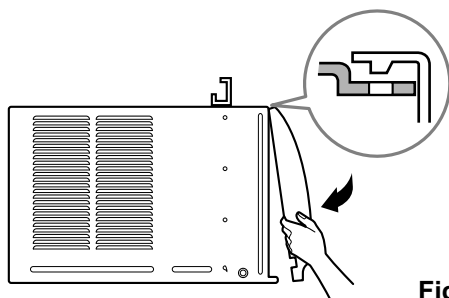

Fig. 10
13. Attach the front grille to the cabinet by inserting the tabs on the grille into the tabs on the front of the cabinet. Push the grille in until it snaps into place. (See Fig. 10)